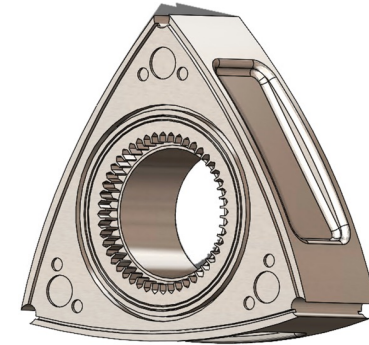

Fig 1.
A Wankel engine is a smaller engine that replaces pistons to perform combustion in exchange for a rotor that performs the same process while requiring fewer moving parts. Wankel engine rotors can be found in snowmobiles, jet skis, chainsaws, AUVs, and cars. The design for this rotor was made possible using a SolidWorks template to achieve accuracy in dimensions for the CAM simulations. For our visual purposes, the rotor would also be recreated with additive manufacturing (3D printing, **Figure 1**) to get a better hands-on visual of the product. With the model available, Mastercam is used to create the simulation and code that can be used for subtractive manufacturing. For the objective of this project, we will establish constraints on specific tool path creations, considering cost, time, and efficiency factors. In the end, we still want to manufacture the rotor with the ideal substitutions to remain as accurate as possible, and the end goal remains the same, which is to get a better understanding of the proficiency of CAM in a manufacturing setting and with a complex part.
- Upload the SolidWorks rotor file into Mastercam to set up the stock (**Fig 1**).